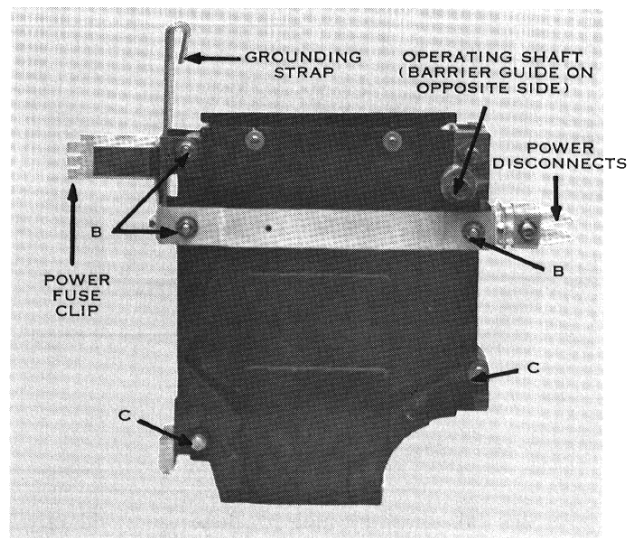

Fig. 20. Arc-chute assembly with power fuse clip, grounding strap and power disconnects
The arc chutes on this contactor are a unit that has mounted to it power fuse clips, grounding strap and power disconnects (see Fig. 20).
1. Remove operating shaft and interphase barrier guide (see Fig. 20). Since these parts are pinned to the chute, care should be taken to insure that parts are not damaged during removal.